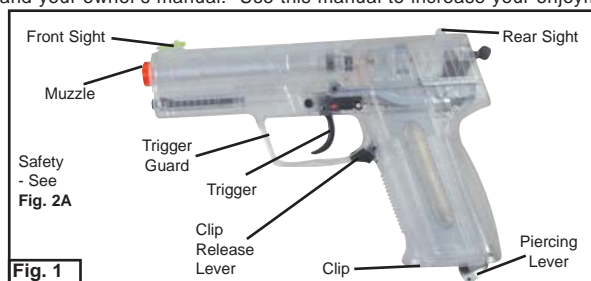

Fig. 1
1. Learning the Parts of Your New Soft Air Pistol - Learning the names of the parts of your new soft air pistol will help you to understand your owner's manual. Use this manual to increase your enjoyment of this soft air pistol (Fig. 1).